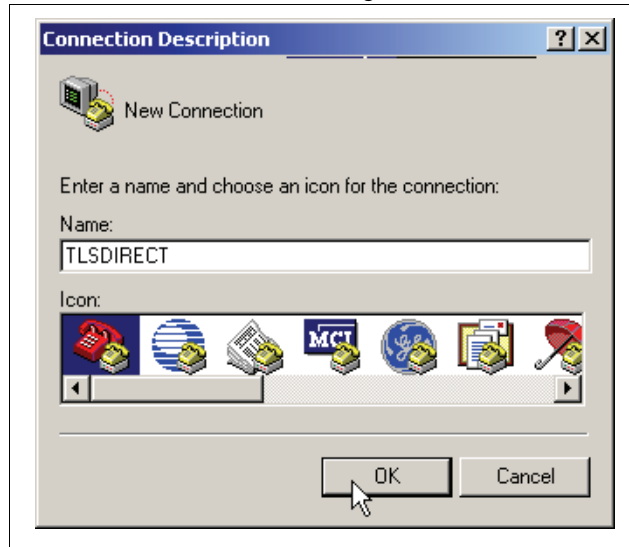

Figure 12. Connection Description window
- After opening the terminal software program, ignore (cancel) any modem/dialing related request windows since you will be directly connecting to the console via serial communications. When the Connection Description window appears (Figure 12), enter a connection name, e.g., TSLSDIRECT, and click the OK button.